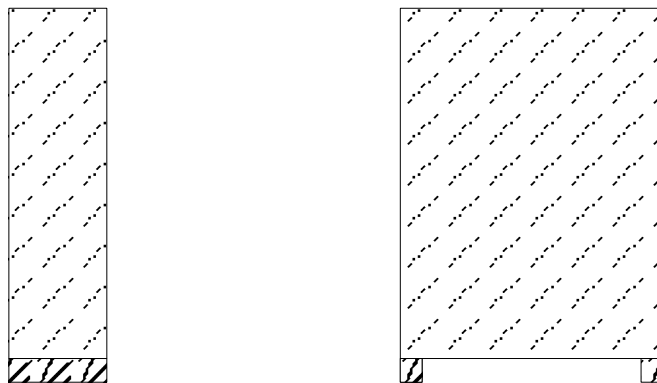

Figure 8
- For sea transport, the units are packed in sealed aluminium foil with desiccant and in a closed wooden case with tightly closed wooden base (also for container transport, see Figure 8).